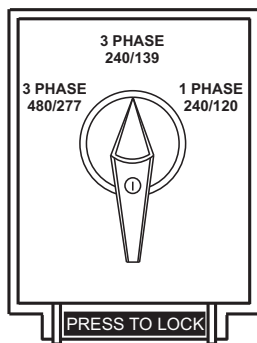

Figure 42. Voltage Selector Switch
2. Make sure the **Voltage Selector switch** (Figure 42) has been configured for the desired output voltage.